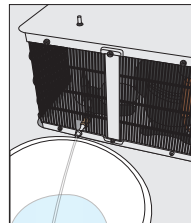

Figure 28
- 1.4 Allow the solution to remain in the system as recommended by the sanitizing product manufacturer. Remove the drain cap and drain all contents into a bucket for disposal (Figure 28).